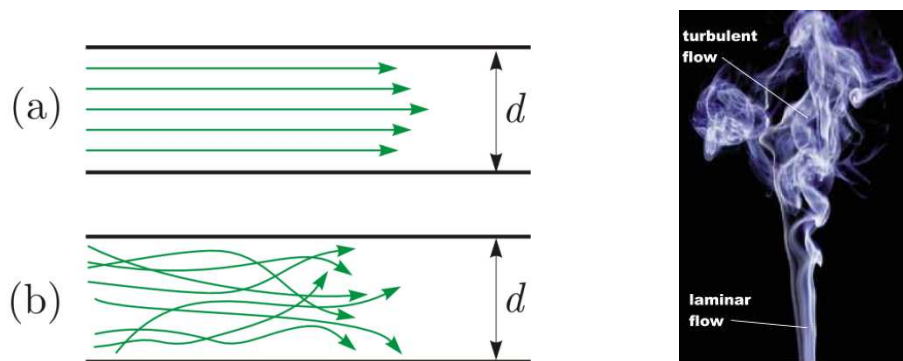

Figure 2: (a) Laminar flow; (b) Turbulent flow. Rising smoke demonstrates the transition between laminar and turbulent flow.
The velocity in the flow direction is constant and steady and does not vary with time. The velocity perpendicular to the flow direction is zero at all times. Laminar flow is illustrated in Figure 2(a).
**Turbulent flow** is one of the last great mysteries of physics and there is a Nobel Prize waiting for the person who can uncover its mysteries. The unexplained facts are that if the velocity of a laminar flow is gradually increased there comes a point at which the nature of the flow changes. Particle paths become irregular and chaotic, leading to large scale mixing between adjacent layers. The flow becomes very time dependent as sudden bursts of chaotic energy are created within it and then gradually dissipated. It all appears random and unpredictable. Turbulent flow is illustrated in Figure 2(b).